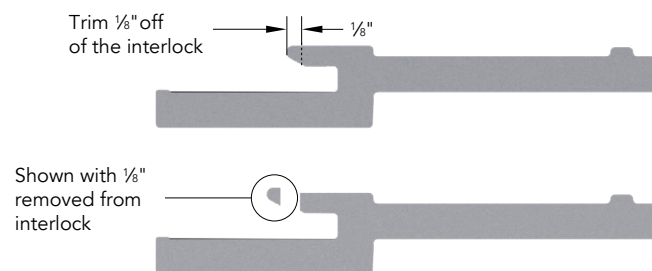

Figure 10
- It may be necessary to remove  $\frac{1}{8}$ " from the interlock on the panel to be installed to allow the panel to slide into the trim, clear the existing panel, and have proper engagement. Use a utility blade to complete this task (Figure 10).
- The last course may require you to remove  $\frac{1}{8}$ " from the interlock on the panel to be installed, allowing the panel to slide into the trim accessory and engage on the previous panel (Figure 10).